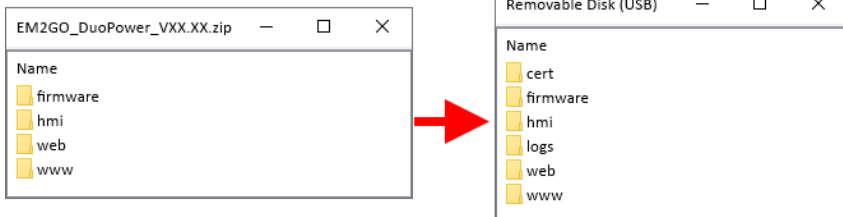

Fig. 2 Copy folders from ZIP file to EV charger removable disk
8. Extract all files and folders of the downloaded ZIP file into the removable disk of the EV Extract the charger with its original file and folder names (see fig. 2).